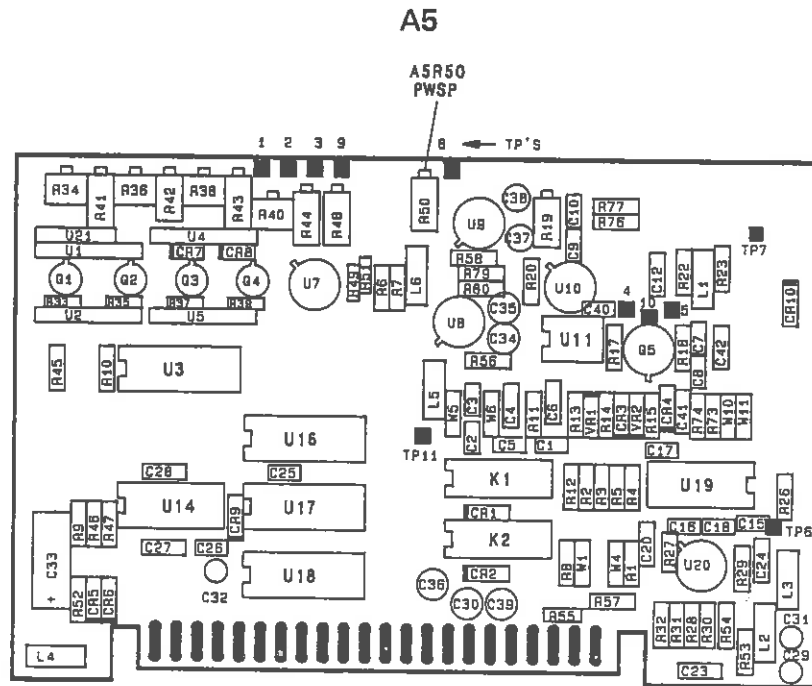

Figure 5-21. Power Sweep Adjustment Location
6. While observing the power meter display of the RF output, adjust A5R50, PWSP, (figure 5-21) for 11 dB/sweep (1.5 dB less if the RF plug-in is an Option 001/006).